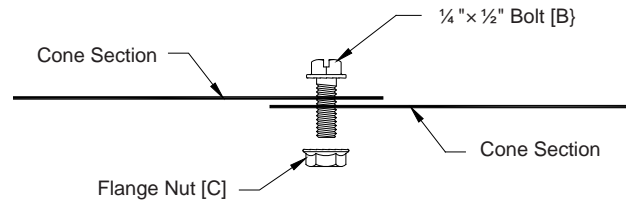

Figure 10
Join cone sections using (12) Bolts [B] and Nuts [C]. Bolt should be installed from the outside and go through two layers of cone. See Figure 10. DO NOT tighten. Nuts should be started only one turn onto bolts at this time. DO NOT place bolts in outside hole at the this time.